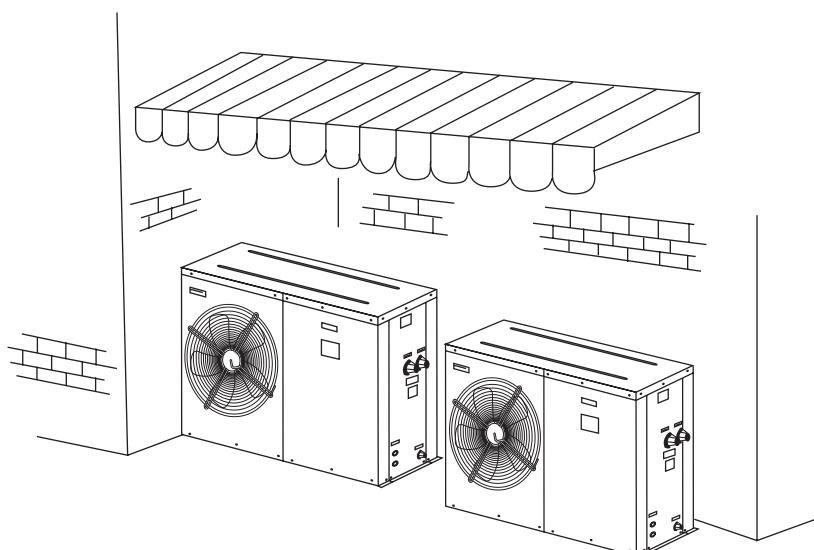

**Figure 4: For floor installation**
- Unit subjects to floor installation must be placed on a concrete slab. The slab must have thickness of 100mm and 50mm wider and longer than the footprint of the unit (Figure 4). Place the concrete slab a distant from building to prevent vibration and noise.